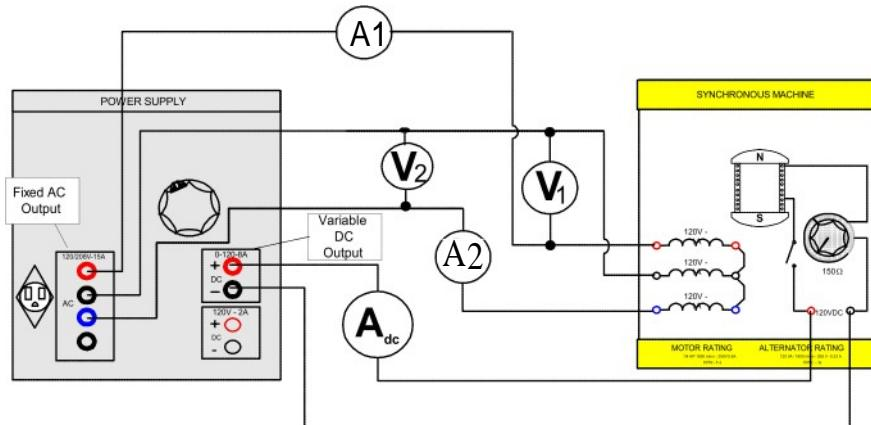

FIGURE 9.6
Step 13: a) Using your EMS Synchronous Machine, Power Supply and Data Acquisition Interface (DAI) modules in the EMS workstation, connect the circuit shown in figure 9.6. Note that the stator windings are connected, through the wattmeter, to the fixed 208V 3\$ output of the power supply, terminals 1, 2 and 3. The rotor winding is connected, through the ammeter, to the variable 0-120Vdc output of the power supply, terminals 7 and N. The voltage adjust control knob should be at zero.